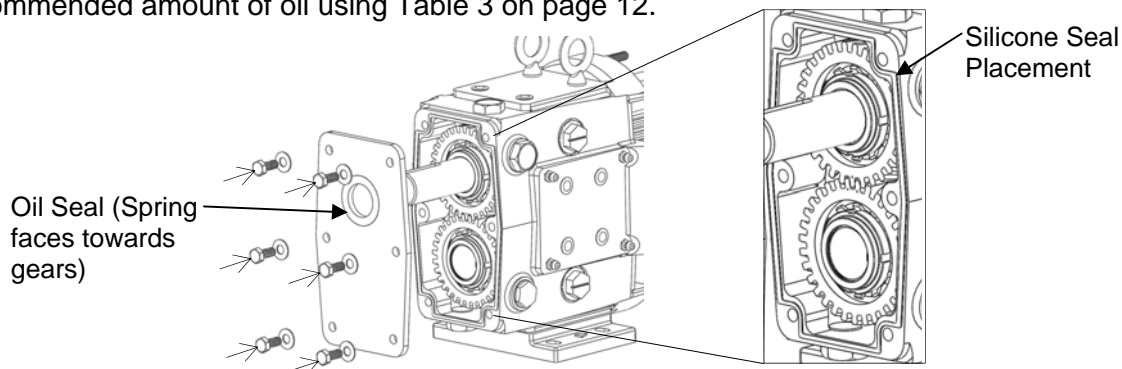

Figure 60: Installing Gear Casing Back Cover
10) Apply a light film of lubricant to the inside and outside diameters of the gear case cover oil seal. Using a press, install the oil seal into the back cover so that it is flush with the outside of the back cover and the spring is facing the gears. Apply a silicone sealant to the edges on the back of the gear case making sure there are no gaps. Slide the back cover onto the gear case, making sure that the shaft is centered on the oil seal, and secure it with the retaining bolts (Figure 60). It is important not to cut the oil seal on the shaft keyway; tape may be used to cover any sharp edges on the shaft. Install the oil plugs and fill the gear case with the recommended amount of oil using Table 3 on page 12.